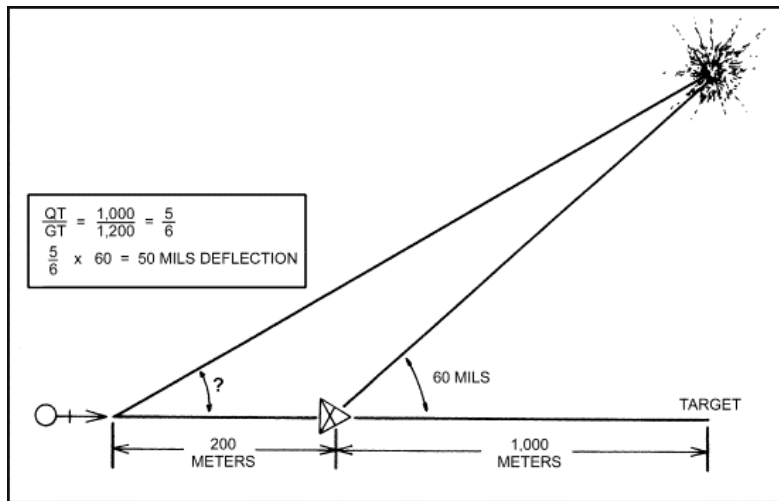

Figure 8-5. Observer more than 100 meters from the mortar but within 100 meters of the GT line.
b. This first round bursts beyond the target and 20 mils to the left as shown in Figure 8-5. The squad leader issues a subsequent fire command correcting the deflection and decreasing the range between himself and the target, thereby establishing a bracket. He commands, RIGHT TWO ZERO (20), RANGE ONE SIX ZERO ZERO (1600).
c. The second round bursts between the FO and target and on the GT line as shown in Figure 8-5. The deflection is now correct, and a 200-meter bracket has been established. The squad leader's subsequent fire command is RANGE, ONE SEVEN ZERO ZERO (1700). The gunner selects the charge from his firing table, announces the charge to the first ammunition bearer, and when all is ready he commands, FIRE.